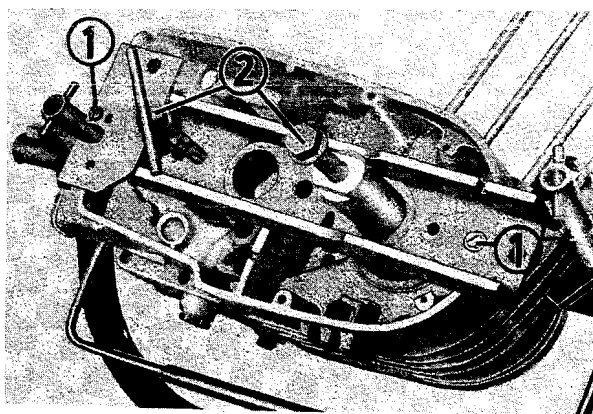

Fig. 25. Separating the housing
The assembly bridge 22-50.430 is screwed on the right-hand housing half by means of two M 6 screws (1) (see Fig. 25). By means of the spindles (2) of the bearing extractor 6203 and the clutch puller, the housing halves are separated by uniformly turning the pressure spindles.